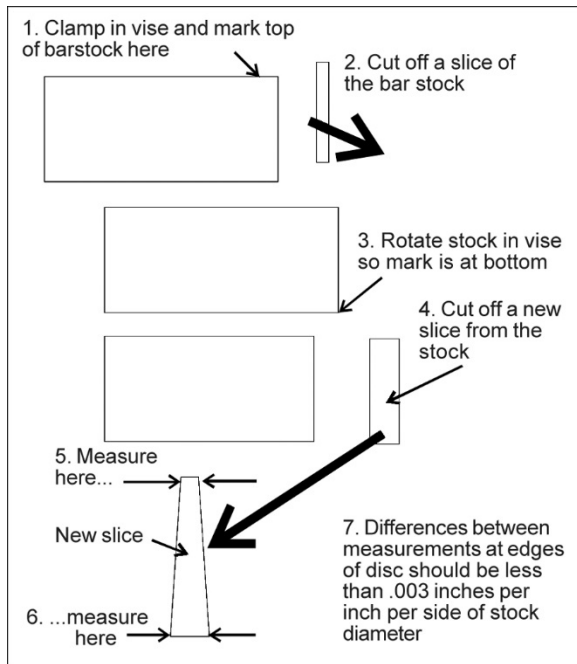

Figure 8-5
1. With bar stock securely clamped in the vise, make a cut through the bar stock (see Figure 8-5).